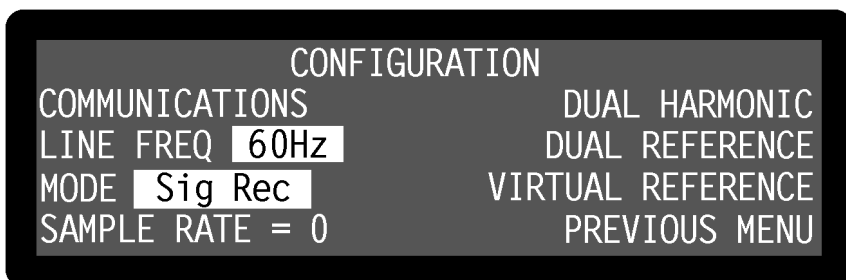

Figure 2-8, Configuration Menu
- 4) Press one of the keys adjacent to the Configuration menu item to enter the Configuration menu, shown below in figure 2-8.
- 5) The present line frequency setting is shown in reversed text adjacent to the “Line Freq” label and is either 50 or 60 Hz. In figure 2-8, the filter is set to 60 Hz. If this setting does not match the prevailing line frequency, then press a key adjacent to this item once to change it.